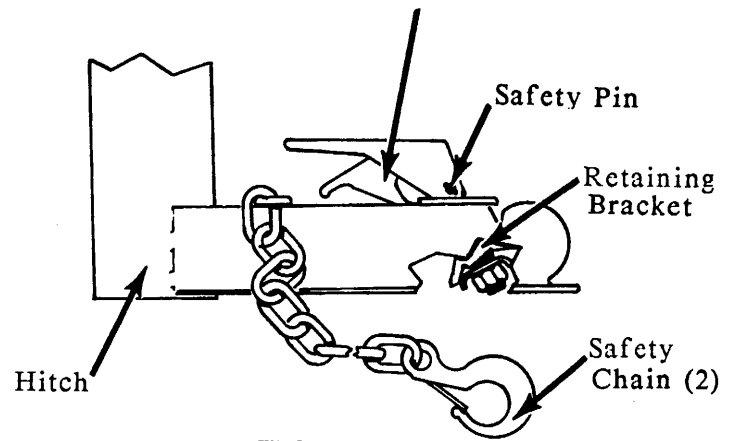

FIGURE 3
6. Place both fenders in slots behind trailer tires. Raise all but very front outrigger. Pull mill behind towing vehicle and place hitch over 2" ball on your vehicle. Engage locking trigger, being sure bracket underneath firmly clamps around the ball (See Figure 3). Secure trigger with safety pin. Cross safety chains underneath the hitch and hook to vehicle. Connect vehicle running lights to mill pigtail and check signals and brake lights.